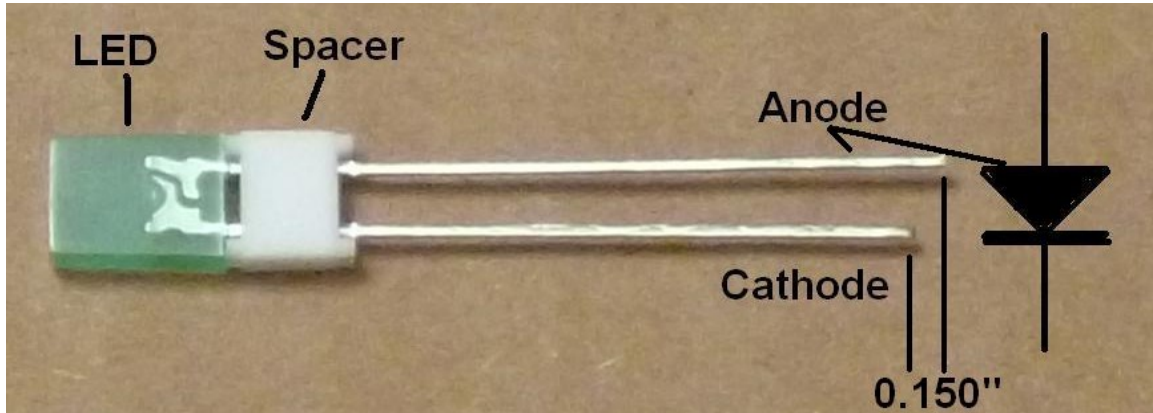

Figure 26-LED with white spacer added
1. Mate each of the 15 LED's with a plastic spacer as shown in Figure 26. These spacers make it easy to assure uniform height above the PCB.
- b. If the leads are cut, you can see the difference in the shape of the metal lead-frame inside the green plastic of the LED (Figure 26).